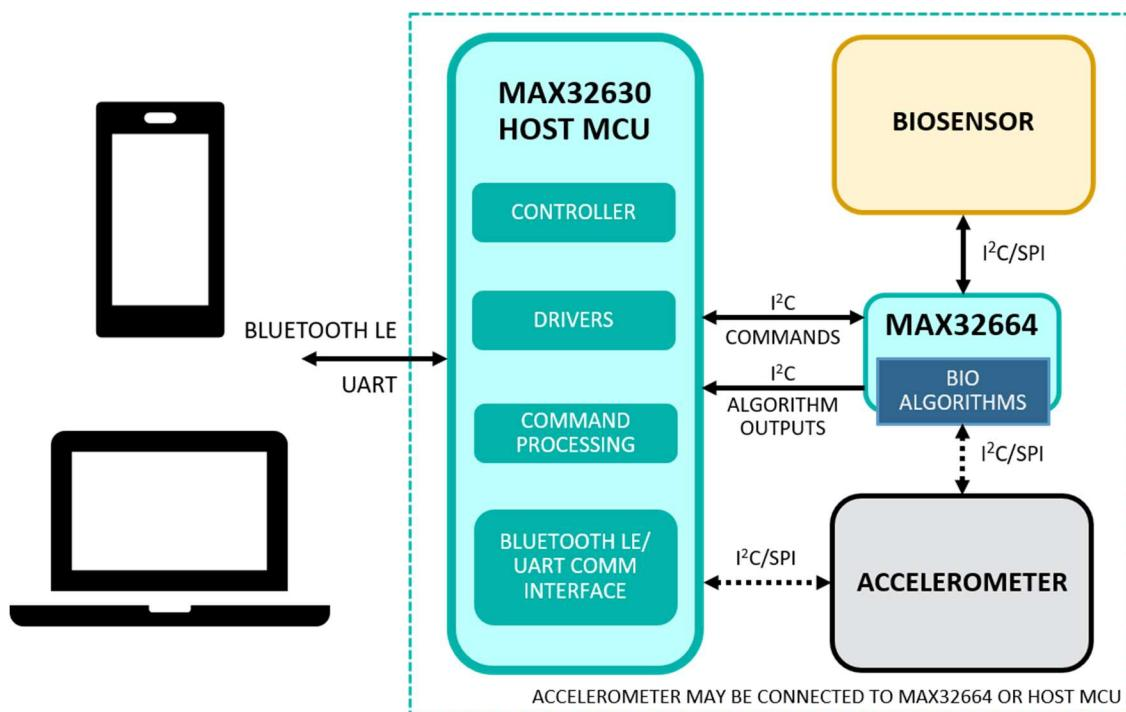

Figure 1. Architecture diagram.
**Figure 1** depicts the high-level architecture of the MAX32664-based reference design platforms. Depending on the variant, it may include different biosensors and algorithms, as shown in **Table 1**. A host MCU bridges the user interface to the sensors and algorithms as seen in **Figure 1** with a set of commands through UART or Bluetooth LE. The user can launch the Maxim DeviceStudio Windows® GUI or an Android® application2 to communicate with the platform using a graphical interface. Alternatively, a terminal program like Tera Term can provide more flexibility to directly send/receive commands/responses to/from the host.